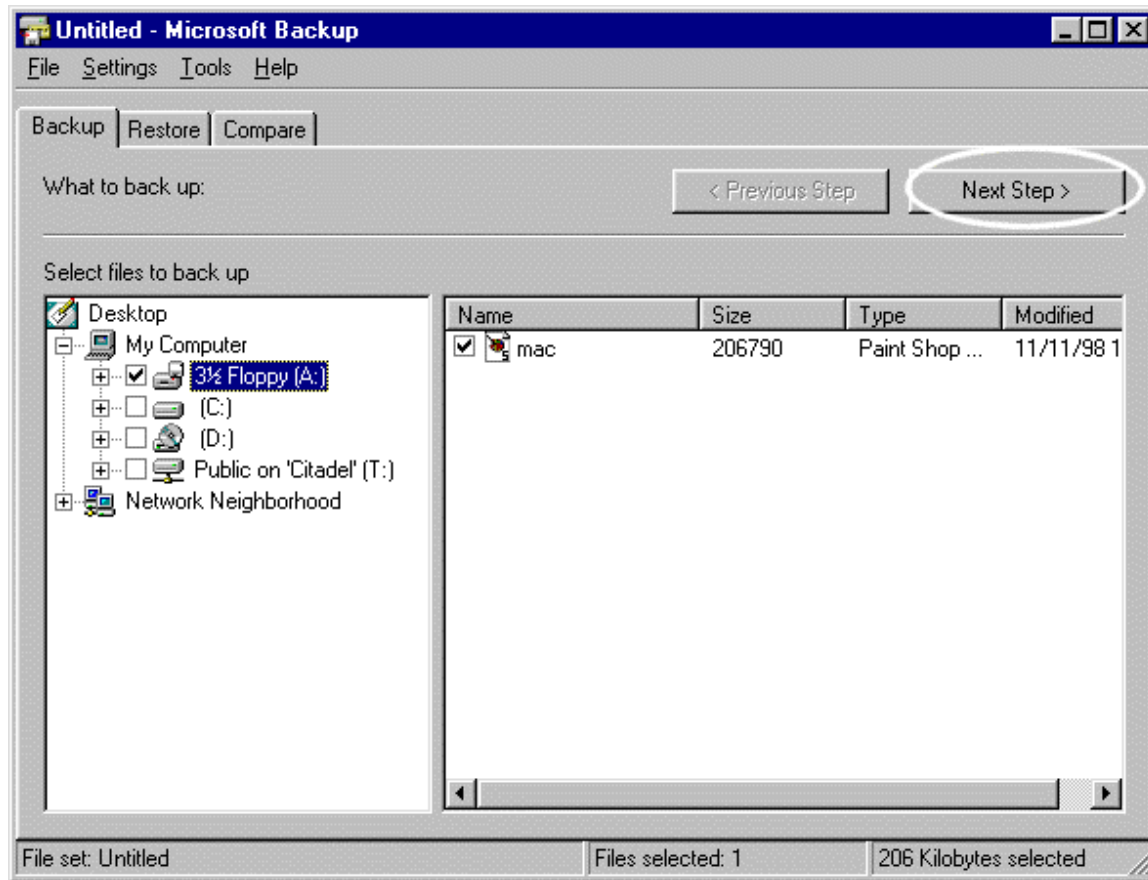

Figure 21 Backup: Next Step
- Click on **Next Step** (see Figure 21).